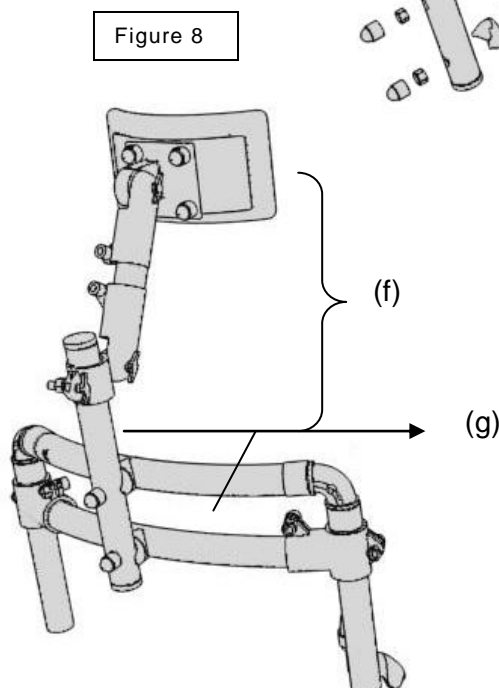

Figure 8
6. Fit the removable part of the headrest to the fix part (Figure 8).